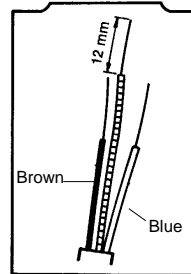

Fig. 19
- 7.1.2 The earth conductor must be cut longer than the live and neutral (fig. 19). Connect the Supply Cable to the terminal block marked 240 V ~ 50 Hz, L, N, the supply cable is to be connected as follows: